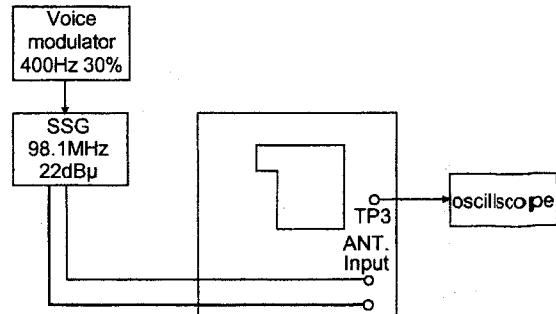

Fig.10
- Connect the measuring equipment as shown in Fig.10.